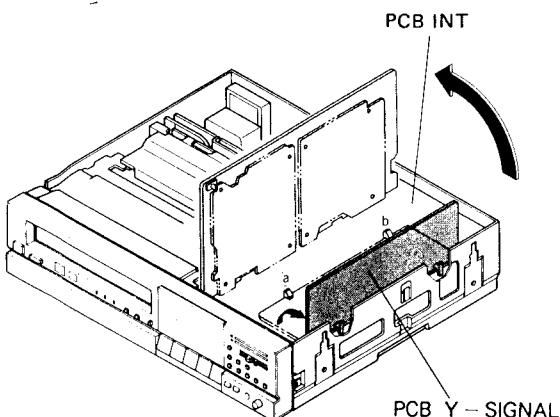

Fig. 2-8
- 3) Unlock the two PCB supports (Ⓐ and Ⓑ) retaining the PCB Y-SIGNAL and pivot the PCB Y-SIGNAL in the direction of the arrow as shown in Fig. 2-8.